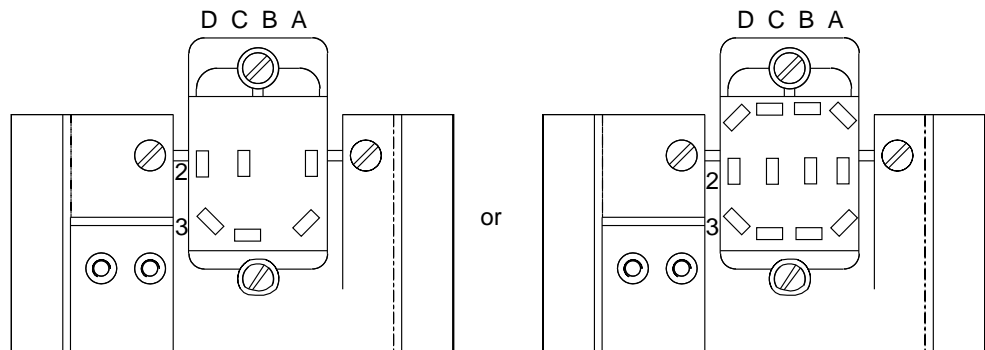

Figure 3-6. UEPO Switch for 3745 Models X1A (Rear View)
- a. Loosen the two screws shown on Figure Figure 3-5 on page 3-7 or Figure 3-6 on page 3-7.